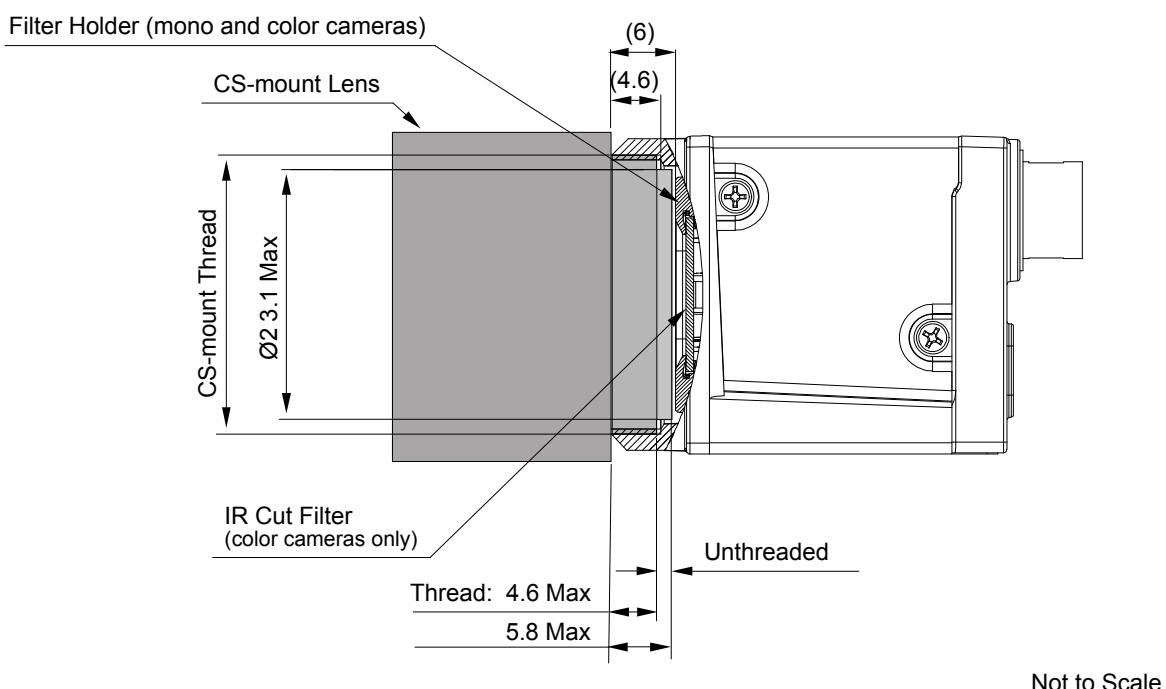

Fig. 29: Maximum Lens Thread Length (Dimensions in mm) for Cameras with the CS-mount
- Camera with CS-mount (see Figure 29):